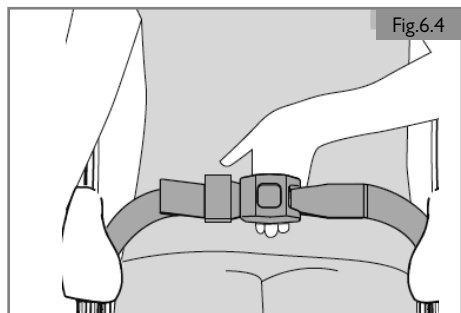

Fig.6.4
7. Adjust the lap strap to suit, leaving no more than a hand's width gap for comfort and safety. (Fig. 6.4)
8. The hand clearance should be with the lap strap under normal tension and not allow large gaps or loops. (Fig. 6.4)